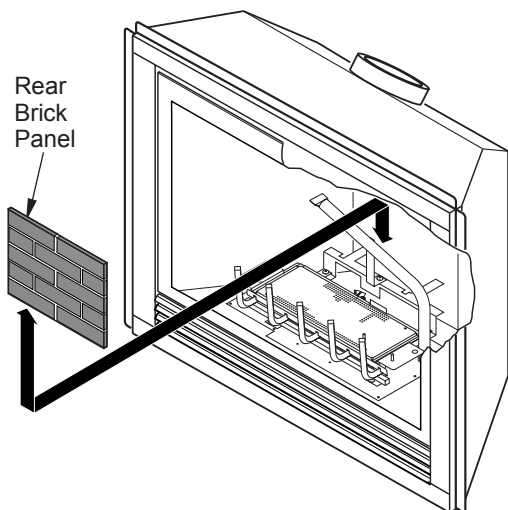

Figure 42 - Installing Rear Brick Panel
5. Install rear brick panel first. Rest bottom edge of panel on back edge of grate (see Figure 42, page 20).